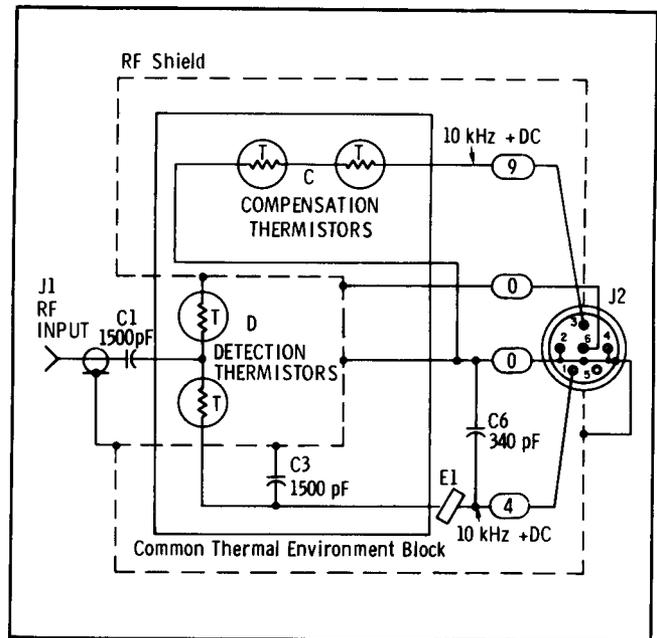

Figure 5. 8478B Connected to a 431C Power Meter
67. Under normal operation, the total power supplied to heat thermistor pair "D" (see Figure 5) consists of: 1) RF signal, 2) 10 kHz bias, and 3) heat from the environment. The total power supplied to heat thermistor pair "C" consists of: 1) dc bias, 2) an equal amount of 10 kHz bias, and 3) heat from the same environment. As "D" and "C" are matched thermally, the total amounts of heat applied to reduce their series resistance equally must be equal.